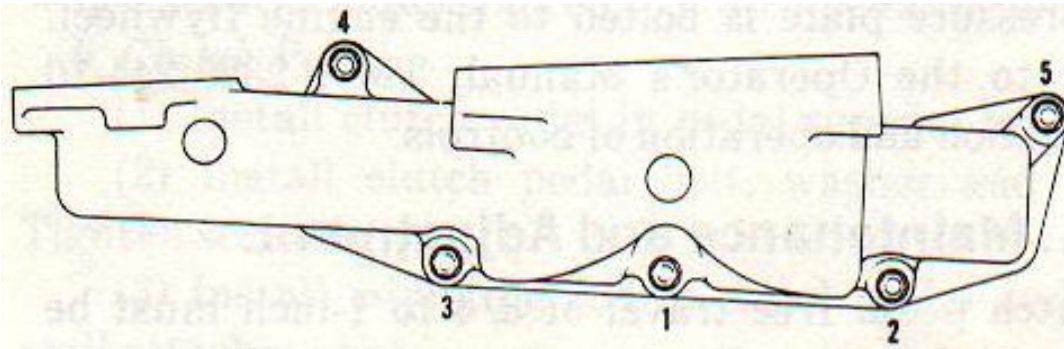

FIGURE 2-8. Intake Manifold Stud Nut Tightening Sequence
- (1) Tighten intake manifold nuts to proper torque (15-20 lbs-ft) following sequence shown in figure 2-8. Remove the pipe plug located at the top rear of intake manifold. Insert adapter into manifold and connect hose to vacuum gage. Insure that all connections are tight, even a slight leak will result in a false vacuum indication.
- (2) Start engine and run at idle speed (650 rpm) until minimum operating temperature (180°F) is obtained. Check carburetor adjustments (para 2-36a).
- (3) With the engine idling at 600 rpm, the vacuum gage should indicate a steady vacuum of 18 to 20 inches of mercury. As a further check, open and close